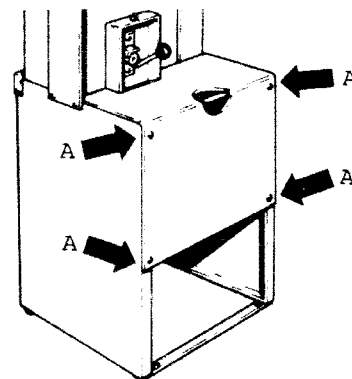

Fig.2.
Remove rear cover from cabinet base, four screws (A), see Fig.2.